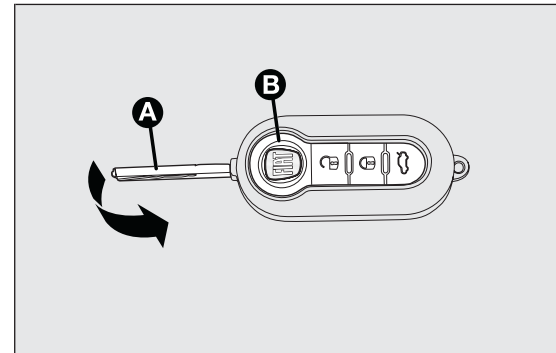

fig. 9
The key is provided with a metal insert A fig. 9, which operates:
**Press button B fig. 9 only with the key away from your body, specifically from your eyes and from objects which could get damaged (e.g. your clothes). Do not leave the key unattended to avoid the button being accidentally pressed while it is being handled, e.g. by a child.**